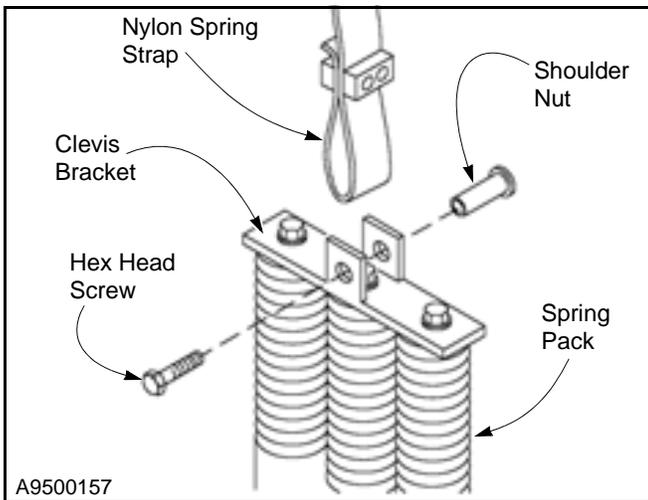

Figure 65
6. To release the strap from the spring pack, remove the hex head screw and the shoulder nut passing through the clevis bracket at the top of the spring pack. Save all hardware. (See Figure 65.)